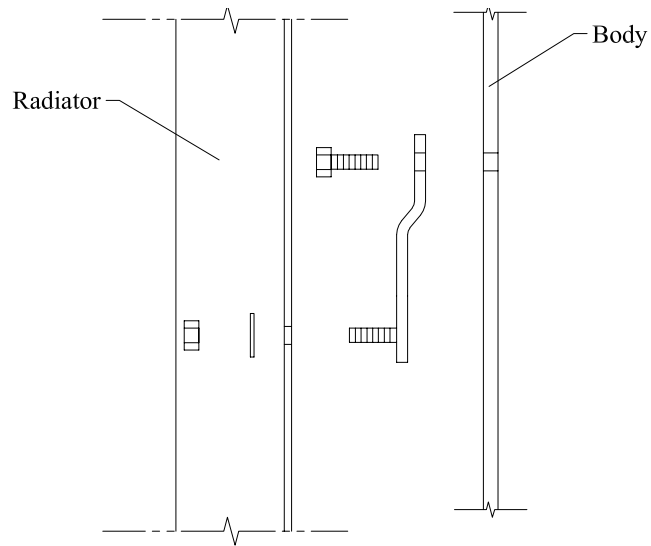

Figure 5
27. Reinstall radiator using the six radiator relocation brackets **Figure 5**. Mount the six relocation brackets to the original mounting holes in the body using the stock hardware. Mount the brackets in the correct position and tighten the bolts. Mount the radiator to the studs on the relocation brackets and fasten them with a 1/4" SAE washer and a 1/4"-20 lock nut. Reinstall power steering reservoir. Tighten all the remaining fasteners and check for fan-to-shroud clearance.